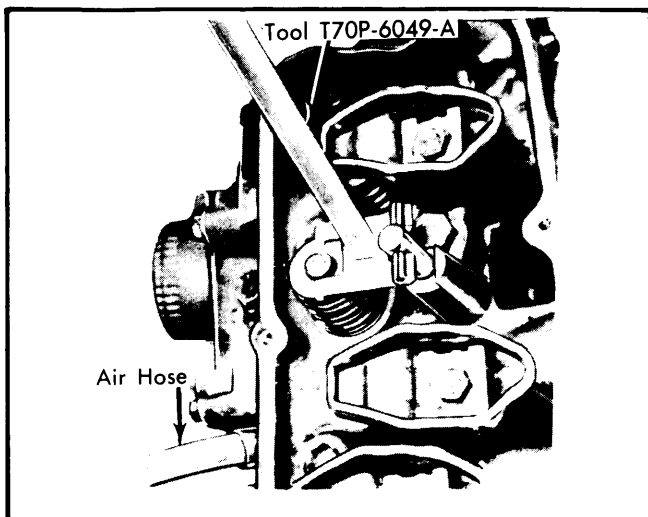

Fig. 3 Compressing Valve Spring for Removal
2) Install air line with adapter into spark plug hole. Use spring compressing tool to compress valve spring and remove retainer lock. See Fig. 3.